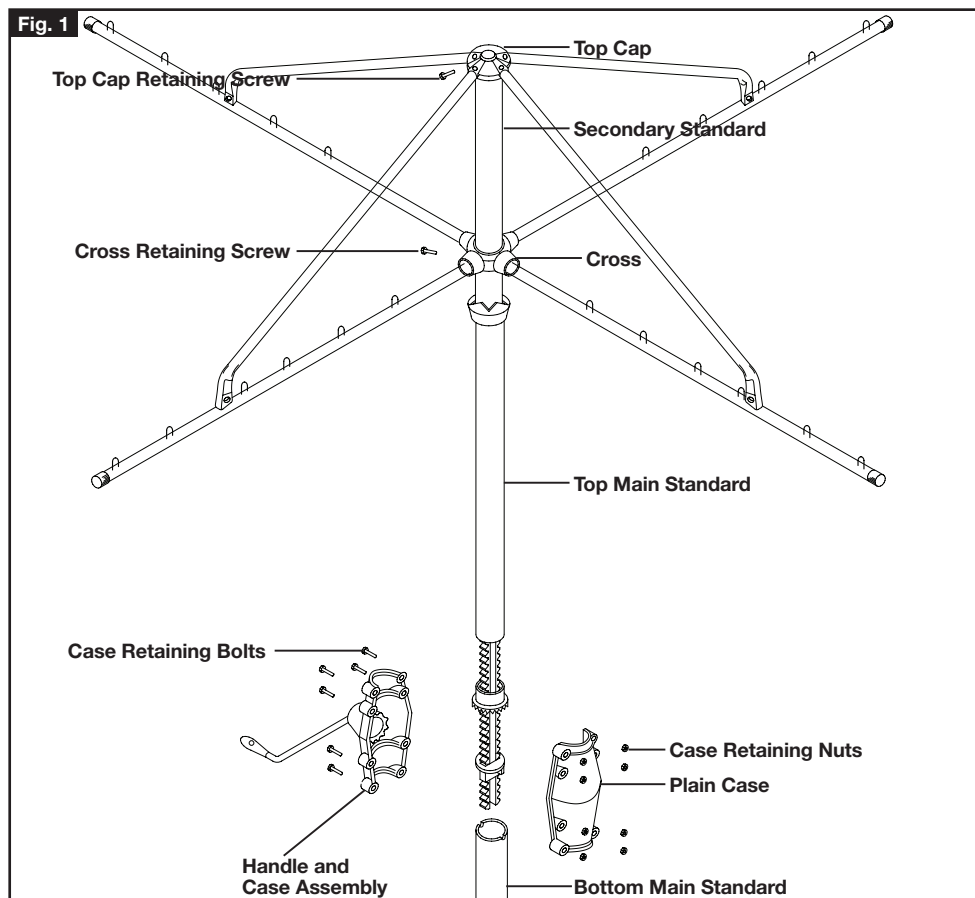

Fig. 2
5. Undo the Wind Brake retaining screw and slide the Wind Brake and Bush off of the end of the Secondary Standard. **Fig 2.**